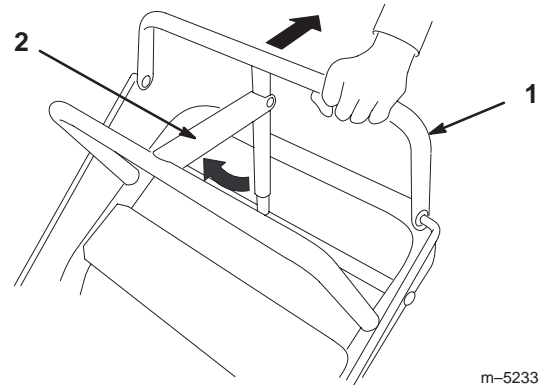

Figure 11
- Check parking brake adjustment. Brake rods should be adjusted so parking brake lever is tight when swung into position against the fixed bar while pulling back on upper control bar (Fig. 11).